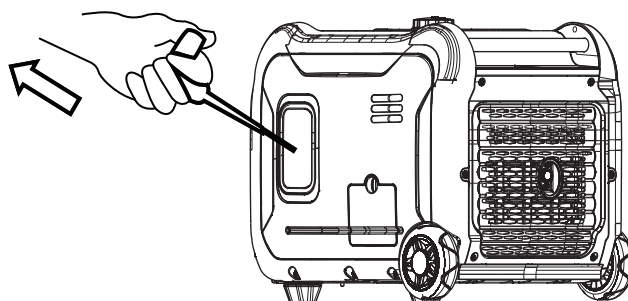

Figure 6: Pull the Recoil Handle out from Inverter
4. Then quickly pull the starting handle (see Figure 6), normal operation of generator.